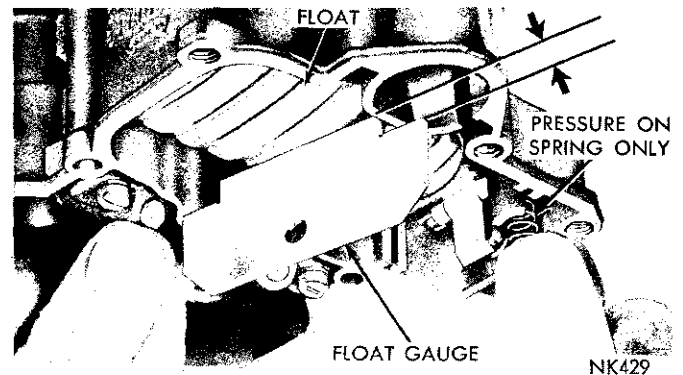

Fig. 15—Measuring the Float Setting
(1) Invert the main body so that the weight of the floats only is forcing the needle against the seat. **Be sure hinge pin does not drop out of the float hinge.** Hold down with the fulcrum pin spring.
(2) Using Tool 73725 or a "T" scale, measure the float level, as shown in (Fig. 15). There should be  $\frac{5}{32}$  inch from the surface of the fuel bowl to the crown of the float at the center.